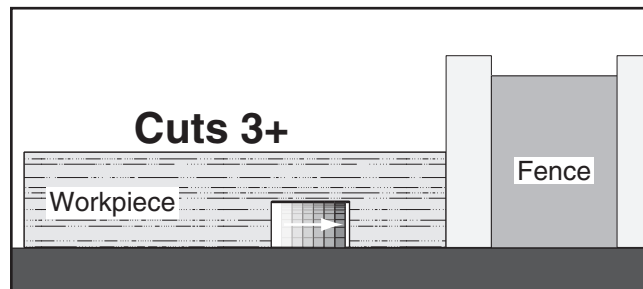

Figure 60. Additional single blade dado cuts.
9. Make additional cuts (see **Figure 60**) in center of dado to clear out necessary material. Dado is complete when channel is completely cleared out.